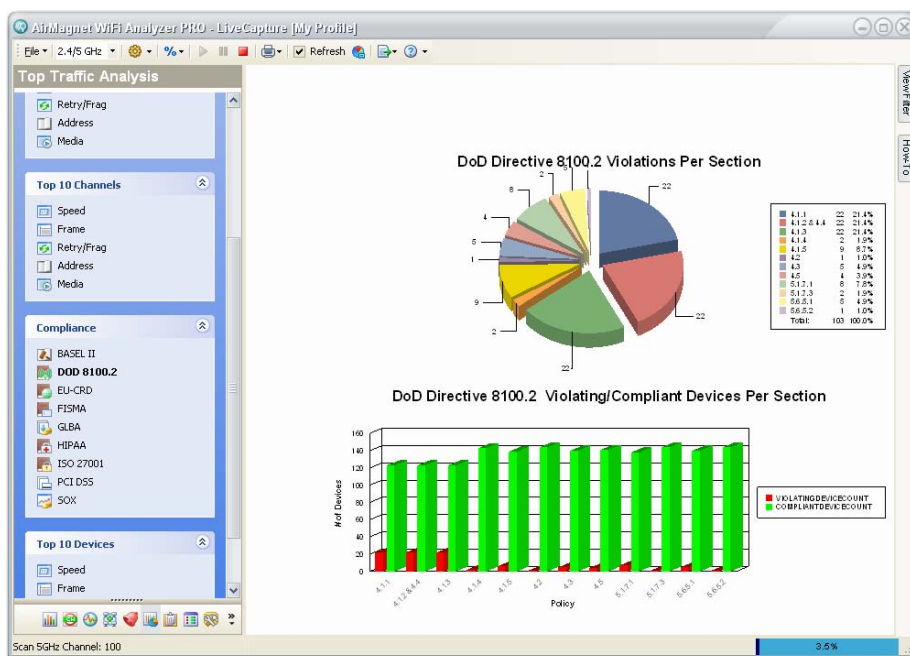

Figure 15-52: A compliance chart
- 1) Select the compliance chart you wish to display from the Compliance section in the left-hand pane. See Figure 15-52.